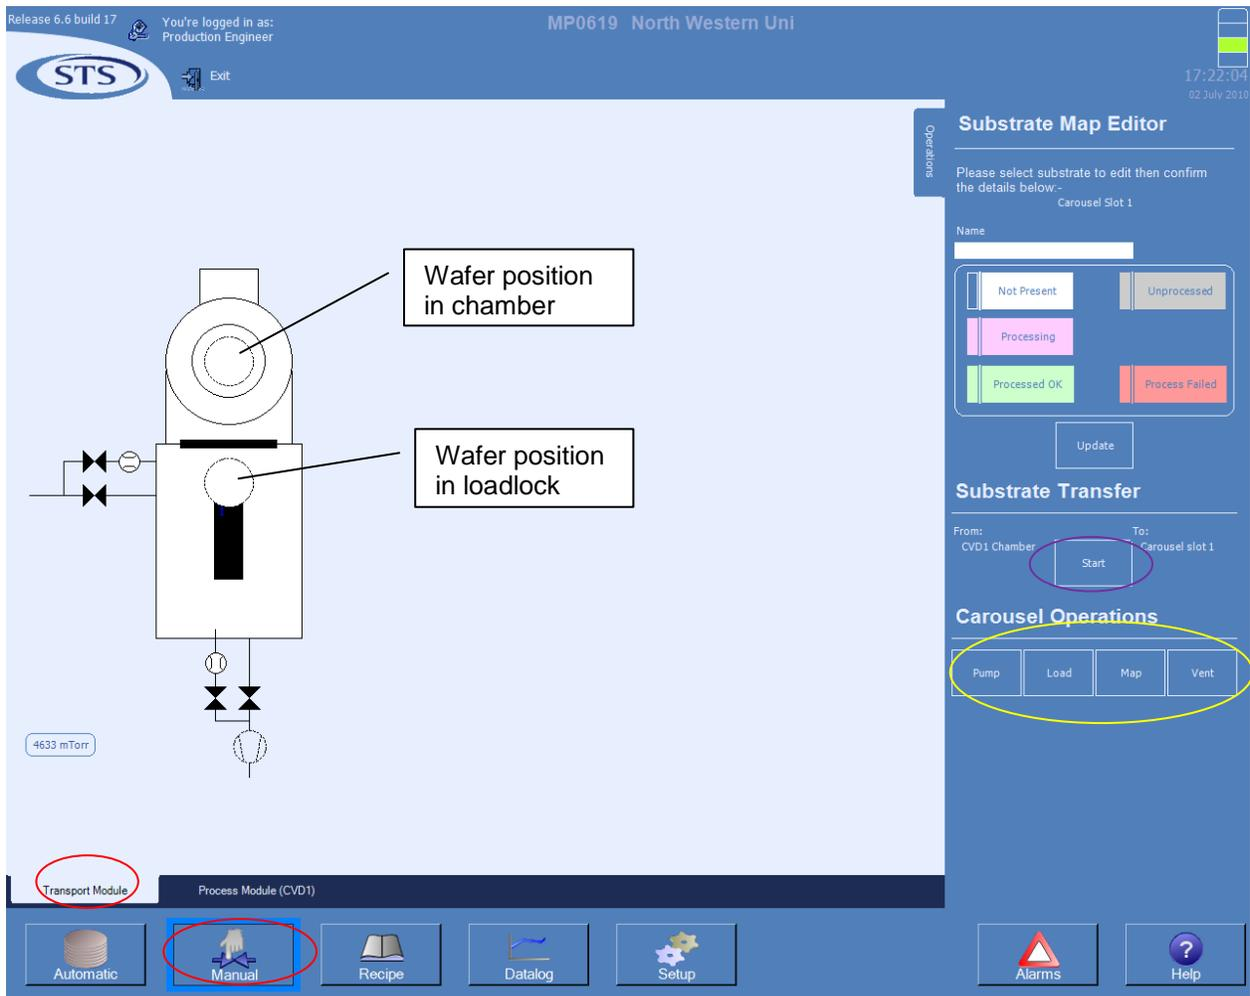

Figure 3: Loading/unloading a wafer.
- a) Go to the loading/unloading screen shown in Figure 3 by selecting Manual and then Transport Module (circled in red).
- f) After this operation completes, click on the wafer on the loading arm (Figure 3) followed by its position in the chamber. Then click Start button (circled in purple). This will transfer the wafer from the loadlock to the chamber.
- a) Go to the screen shown in Figure 3 by selecting Transport Module.